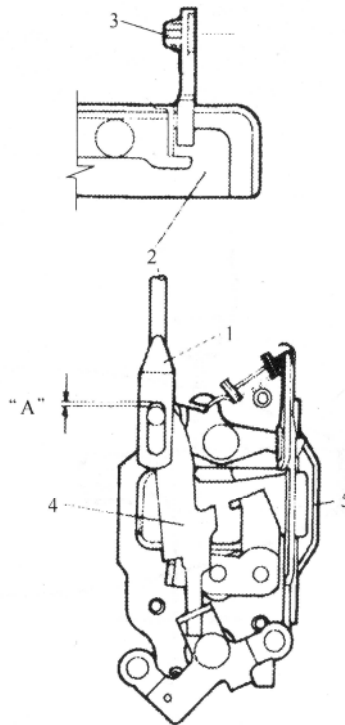

Fig.18-41
(1) When fix the rod 1 to outer handle“2” ,be sure to $A=1.4\pm2.5\text{mm}$ (see figure18-41)